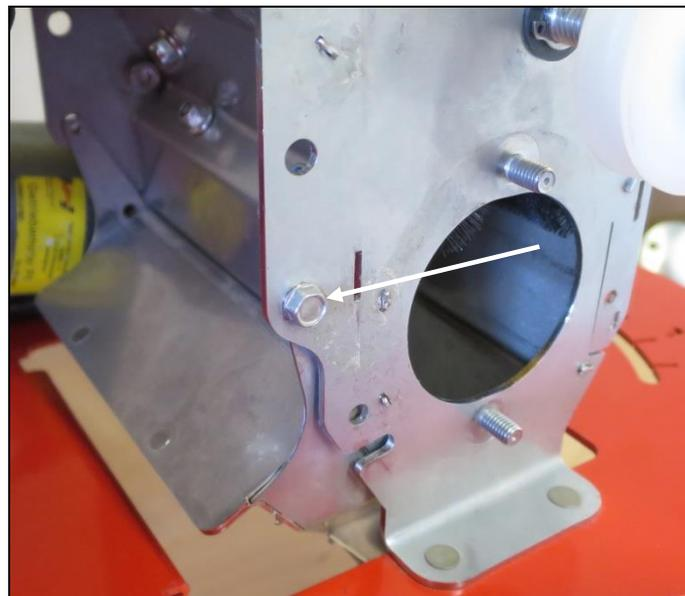

Fig.: 115
- Loosen the oval-head screws installed on both sides, which are marked in Fig.: 115.